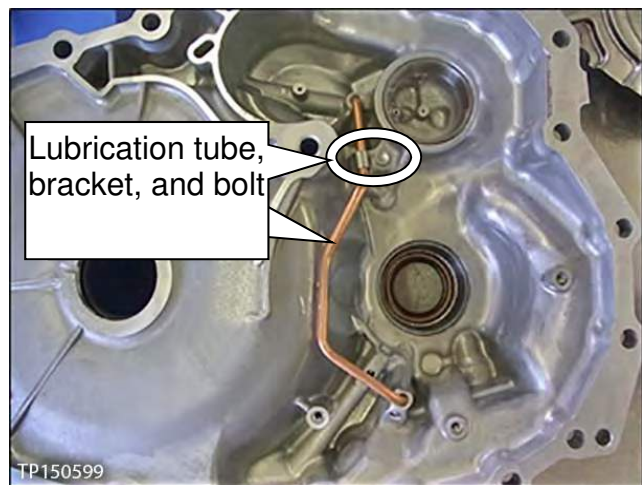

Figure 135
- b. Remove the bolt and then remove the lubrication tube and its bracket (Figure 135).